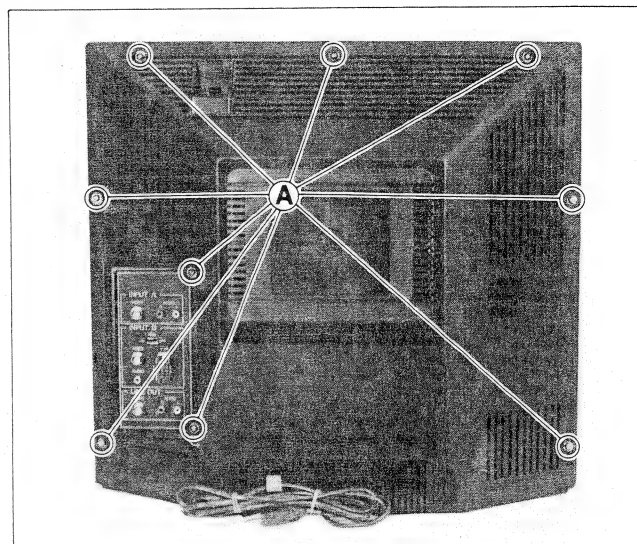

Fig. 8-1
1. Unplug the power supply cord and unscrew the nine screws (A) shown in Fig. 8-1.